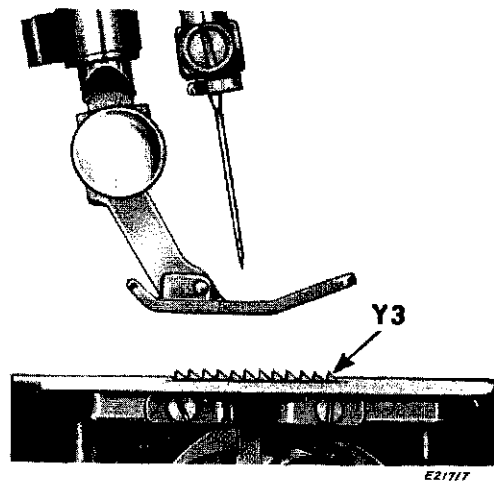
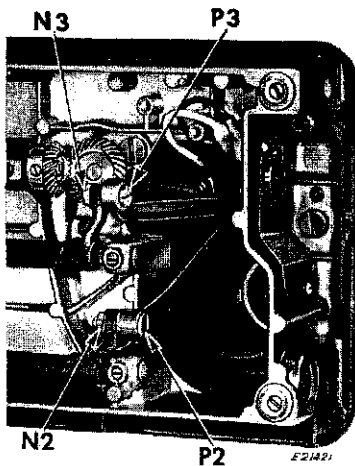

Fig. 13. Correct Height of Feed Dog
Fig. 14. Adjusting Feed Dog
3. Loosen nut N3, Fig. 14 and turn screw P3 to left or to right until teeth of feed dog project .043" above throat plate as shown at Y3, Fig. 13
4. Keeping screw P3 in position with a screwdriver, tighten nut N3, Fig. 14
3. Loosen nut N2, Fig. 14